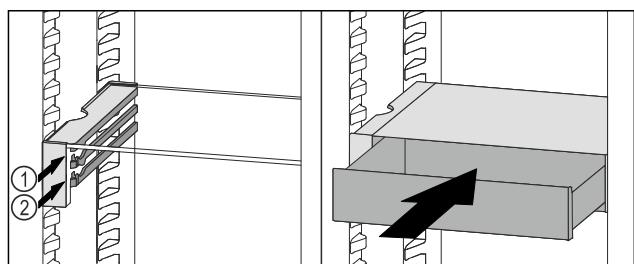

Fig. 105
- ▶ Place the VarioSafe drawer behind the stoppers on desired rib Fig. 105 (1) or Fig. 105 (2).